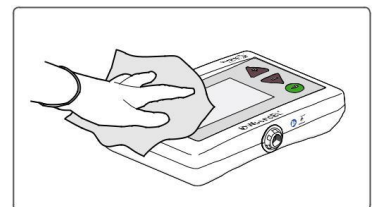

Figure 35. Wipe the device with cloth
1. Thoroughly wipe the device with wipes soaked in disinfectant or ready to use disinfecting wipes that follow the requirements mention in this chapter, see *Figure 35*. Pay attention particularly to edges, narrow corners and ports.